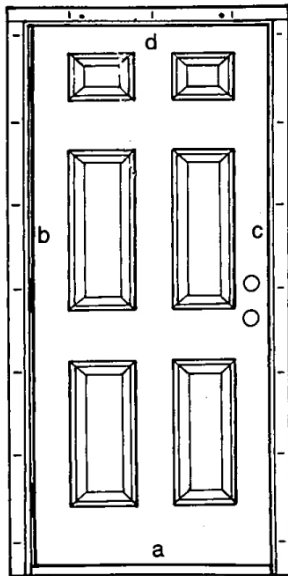

Figure 4E-1
4. Using a level and square, make sure that the door is level, square and plumb in all directions at all noted points (Figure 4E-1).